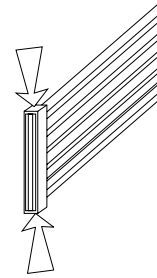

Figure 5. Ribbon cable and connector
**Important:** Use care while disconnecting the cables so that you do not damage the cables or connectors. The cables are removed by gripping the short (top and bottom) edges of the connector and alternately pulling from the top and bottom (see Figure 5). As with any electronic connector, only pull on the connector, do not pull on the cable.